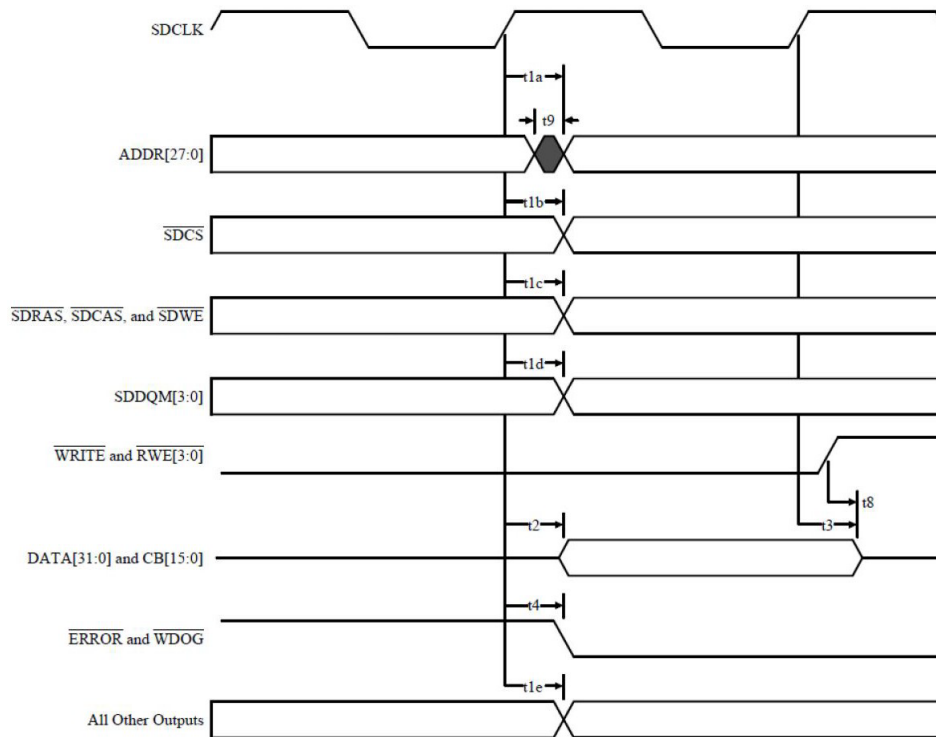

Figure 4:2: Memory Interface, $\overline{\text{ERROR}}$ and $\overline{\text{WDOG}}$ Output Timing Diagram
1. All outputs are measured using the load conditions shown in Figure 4:14